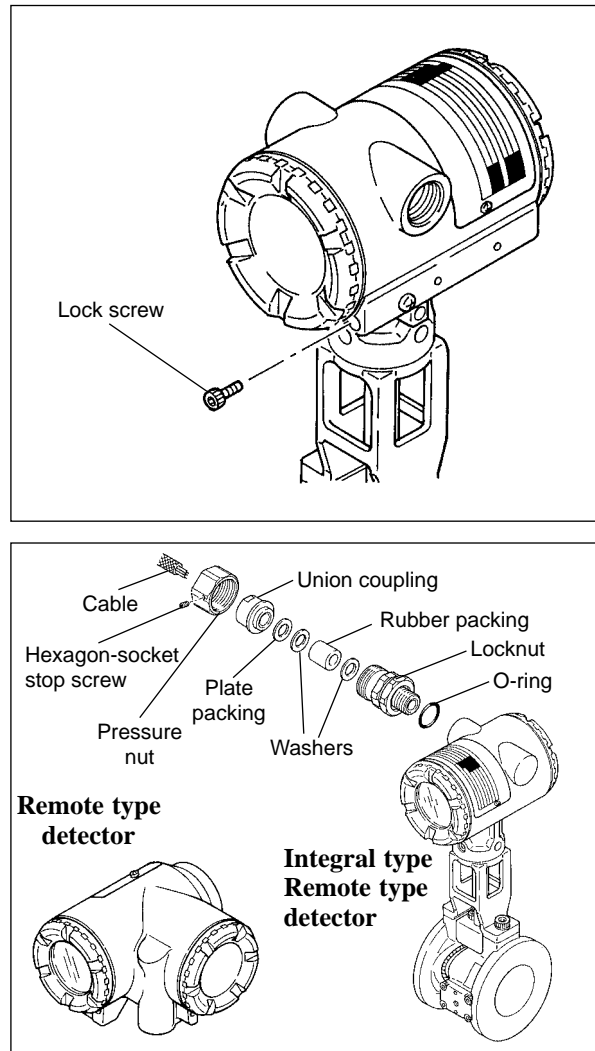

Figure 5.3-2 Attachment of Flameproof Packing Adapter
■ Follow the procedure below to attach a flameproof packing adapter (optional) (see Figure 5.3-2).